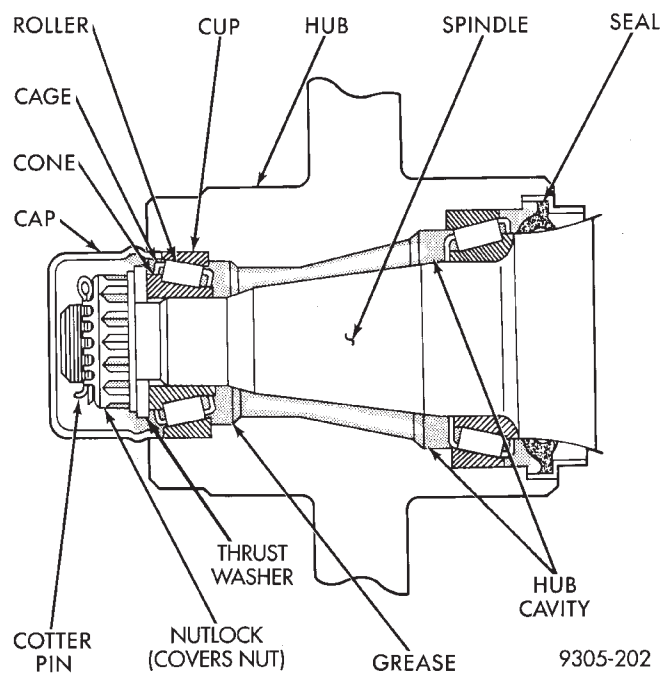

Fig. 1 Rear Wheel Bearings
- (1) Remove the rear tire and wheel assembly.
- (2) Remove grease cap, cotter pin, nut lock, nut, thrust washer and outer wheel bearing.
(3) Carefully slide hub or drum from spindle. **Do not drag inner bearing or grease seal over stub axle (thread, bearing, and oil seal may be damaged.)** Using an appropriate tool remove the grease seal and inner bearing from the drum or hub. Discard grease seal, a new seal should be used when re-installing the inner bearing. (See Fig. 1)
(4) Thoroughly clean all old grease from the outer and inner bearings, bearing cups and hub cavity (See Fig. 1). **To clean bearings, soak them in an appropriate cleaning solvent. Strike the flat surface of the bearing inner race against a hardwood block several times, to loosen grease. Immerse the bearings in solvent between blows to jar loose and wash old particles of hardened grease from bearings. Repeat this operation until bearings are clean. Bearings can be dried us-**